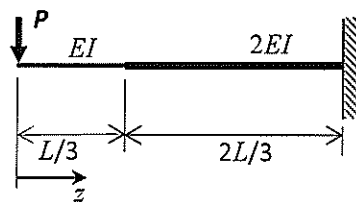

Figure 3a
- (a) Figure 3a shows a cantilever beam which has a constant flexural stiffness of EI for $0 \leq z < L/3$ and $2EI$ for $L/3 \leq z \leq L$ and is subjected to a point load, P , at its free end.